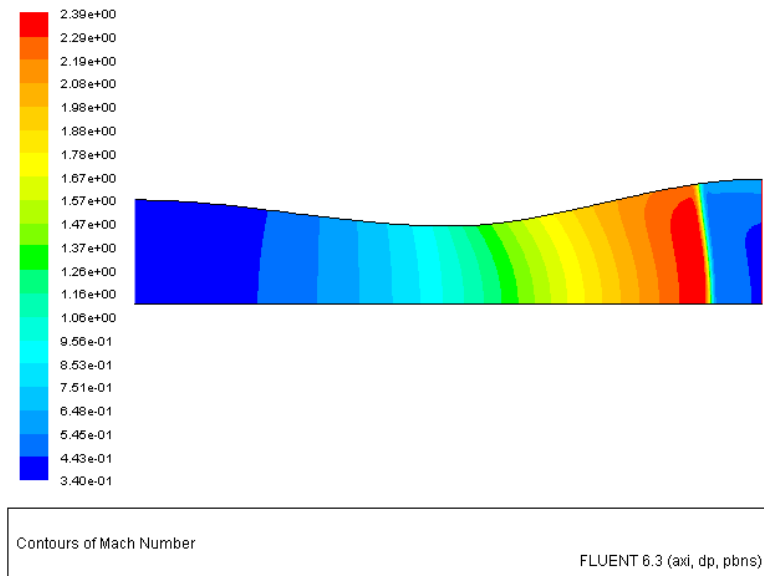

Figure 7.8: Contours of Mach Number (Inviscid Flow)
1. Display filled contours of Mach number (Figure 7.8).